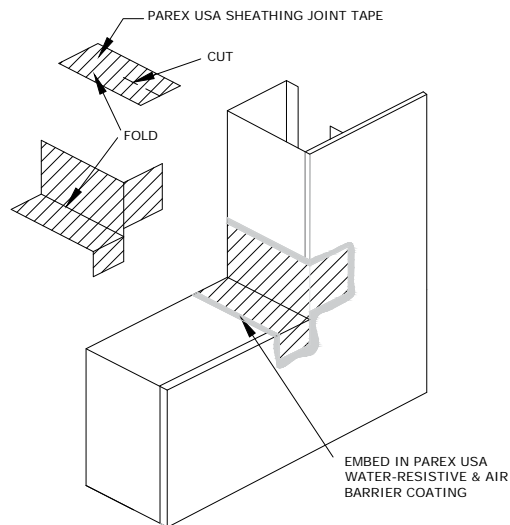

Fig. 10.1
- Cut Sheathing Joint tape in a length to wrap all the way into the rough opening and onto the sheathing face a minimum of 2 inches. Cut and embed as shown in (Fig 10.1)